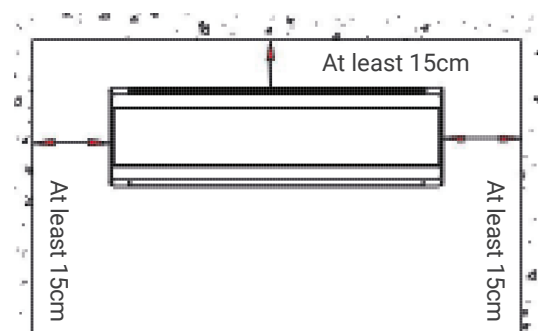

Fig.1
- Ensure the distance as required in Fig.1.
- The back of the indoor unit should be close to the wall (Fig.1)